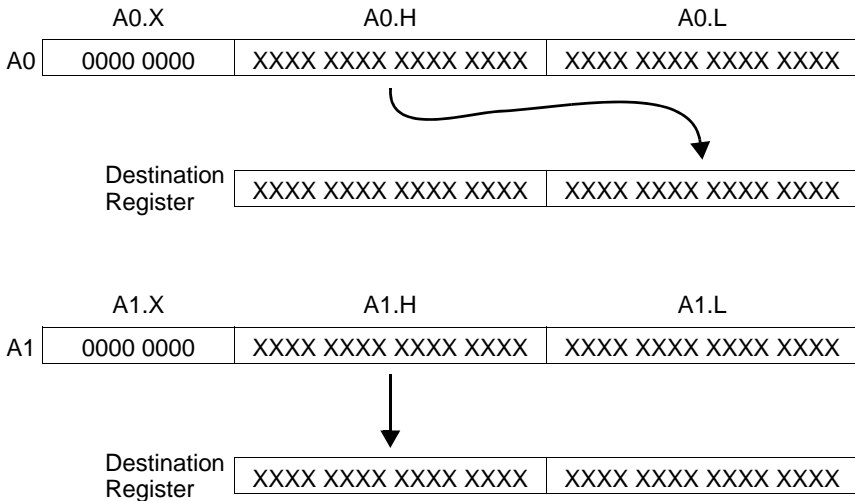

Figure 2-12. Multiplication of Fractional Operands
- If the multiplication uses fractional operands or the IH option, then the high half of the result is extracted and stored in the 16-bit destination registers (see Figure 2-12).